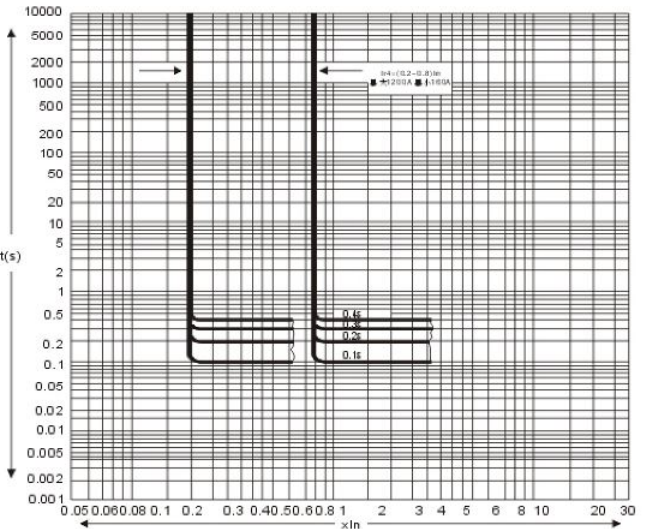

Fig.2
1.5 Protective characteristics of earthing fault as table 8 and figure 2